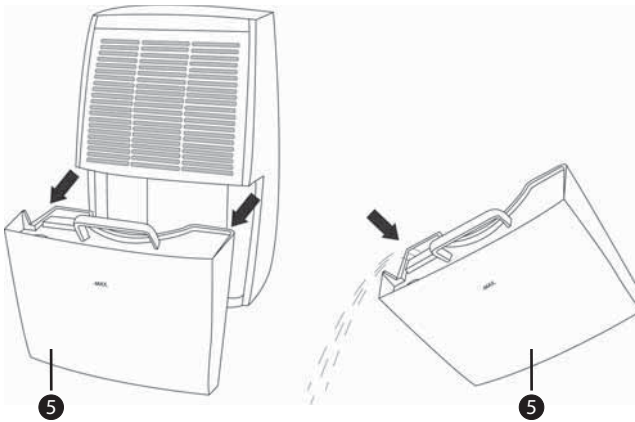

Fig. 1
- ◆ To empty the water tank 5, pull it out a little to the left and the right and then hold it by the carrying handle (see Figure 1).